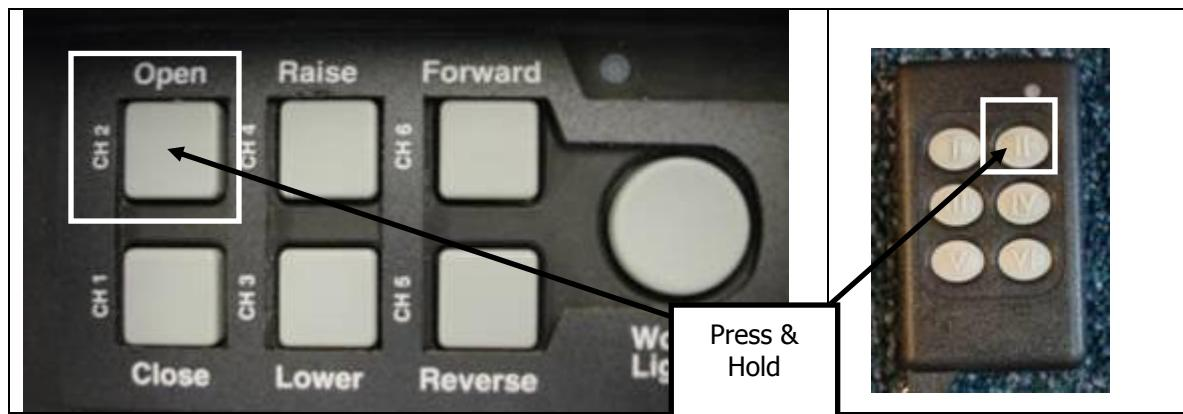

Figure 12
3) Deploy tarp and walk tarp to rear of container. To deploy tarp press & hold button 1 on the control box or the key fob (see Fig. 12), or on non remote systems there will be switch to wind and unwind your tarp. In rare cases with stationary pivot systems you may have to do this before pulling container all the way onto the truck/trailer.